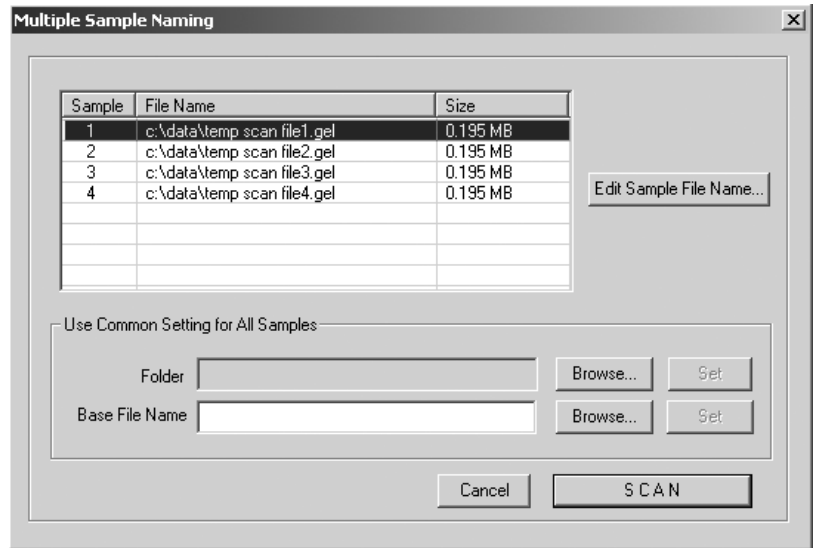

Figure 6-8. The Multiple Sample Naming window.
- In the Scanner Control window, click the **Scan** button. The Multiple Sample Naming window appears (figure 6-8). Default file names appear for each sample.